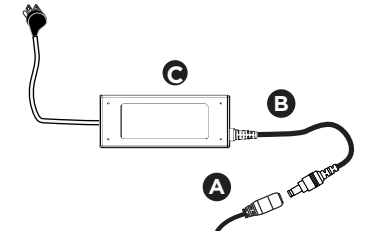

Fig. 10
- Plug in the connector of the two **Heaters A** into the **Power Supply C** (Fig. 10).